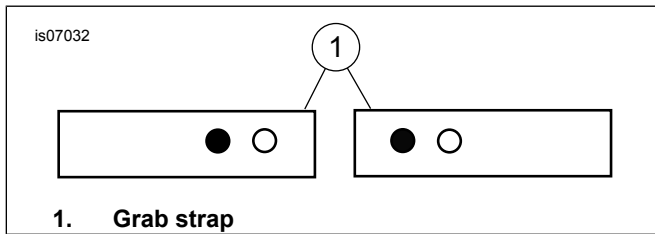
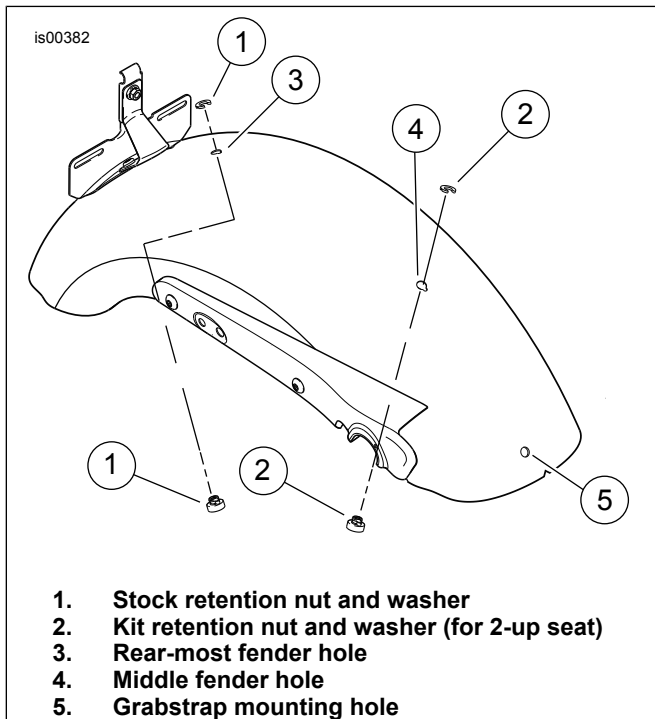
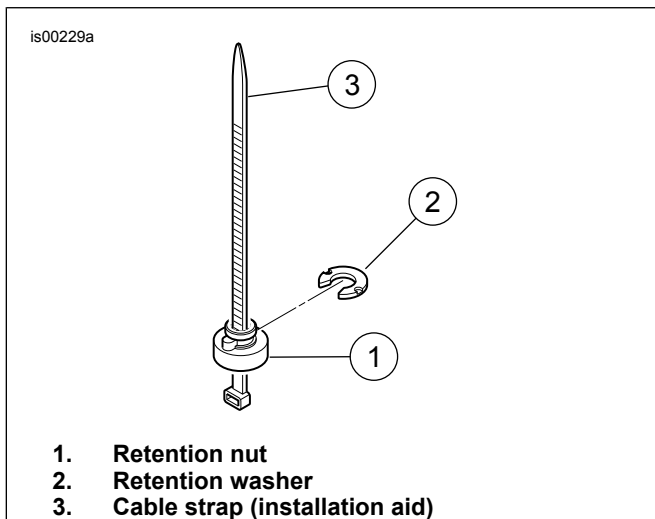
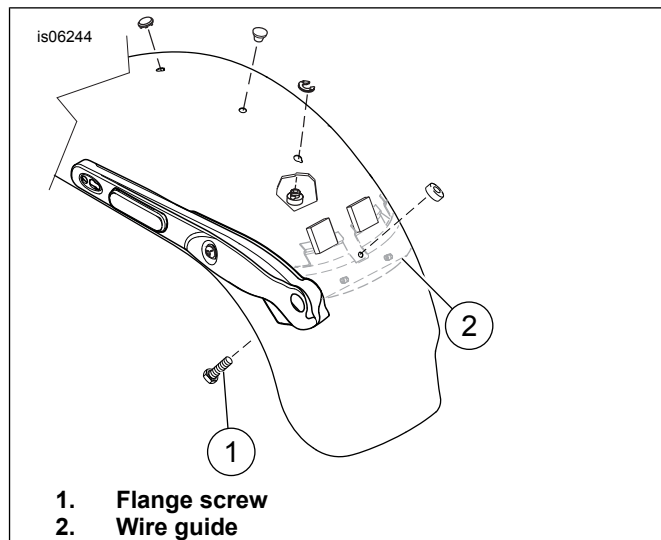

Figure 1. Grab Strap Hole Installation
Figure 2. Retention Nut Location
Figure 3. Install Retention Nut
Figure 4. Grab Strap Installation - FXDWG Models
3. See Figure 1 for information on which holes to install grab strap through (use the hole shown dark in the illustration). Install new grab strap onto motorcycle at same location old grab strap was removed (re-use existing hardware). Tighten to 6.78–10.17 N·m (60–90 in-lbs). **For 2010 and Later FXDWG Models:** See Figure 4. Verify that the head of the flange screw (1) is clear of the wire guide (2) and is installed against the fender.
2. See Figure 2. Remove the plastic cap from the rear most fender hole (3).
4. See Figure 3. A cable strap may be used as an installation aid to remove and install the retention nut and washer. Place the retention nut (1) over the cable strap (3) so the wide end of the nut rests on the eye of the cable strap. Thread the cable strap up under the fender and through the rearmost fender hole. Pull up on the cable strap to hold the nut snug against the underside of the fender.
5. With the rib on the retention nut seated into the notch in the fender hole, slide the retention washer (2) into place from the rear. This will lock the retention nut in place. Remove the cable strap.
7. Install the flange screw from the inside of the fender into the grab strap mounting hole in the fender (Figure 2, Item 5). Secure the screw with the plastic seat retention nut. **For 2010 and Later FXDWG Models:** See Figure 4. Verify that the head of the flange screw (1) is clear of the wire guide (2) and is installed against the fender.
8. Install new passenger strap from kit according to the diagram in Figure 1. Install washer and nut and tighten nut to 6.78–10.17 N·m (60–90 in-lbs).